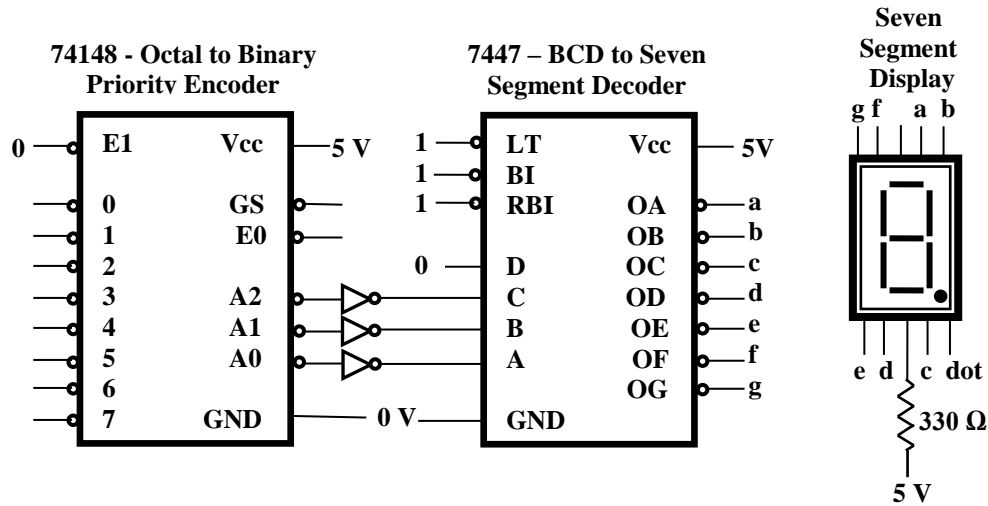

Figure 2: Circuit for displaying encoders output on 7-segment display
You are required to display the outputs of a 74148 encoder IC on a seven segment display. The circuit is given in figure 2.
- 1 Make connections as shown in figure 2. (refer to appendix A for IC pin configurations).